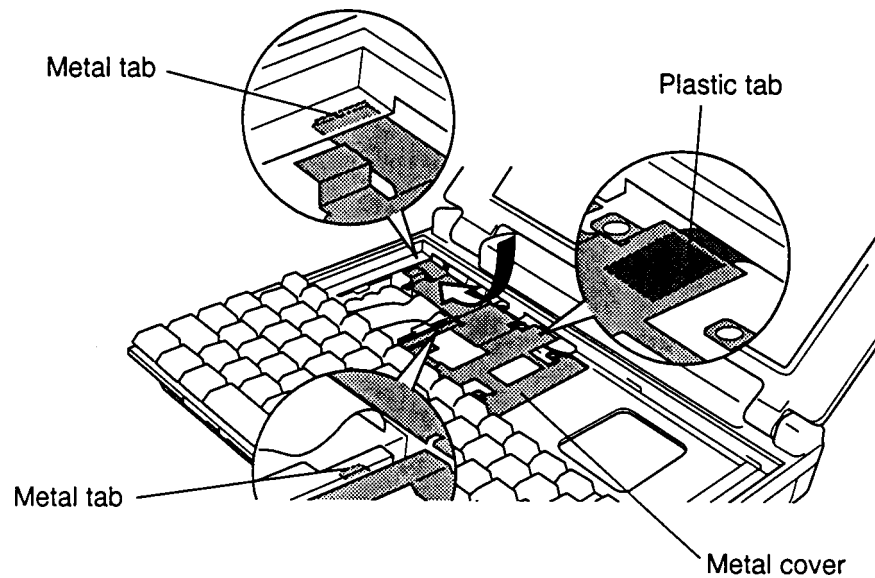

Figure 4-21 Seating the metal cover
To install the keyboard, follow the steps below and refer to Figures 4-21 back through 4-18.
2. Fit the two tabs of the metal cover into the top cover and backup battery base (see Figure 4-21), then seat the **metal cover** and secure it with **five M2.5x6 screws**. Make sure the plastic tab on the LED connector is under the metal cover.